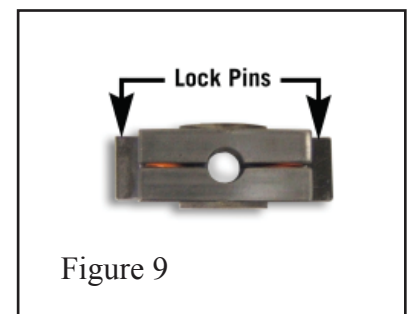

Figure 9
10. Release pressure on the TCS unit and set aside. See figure 9.